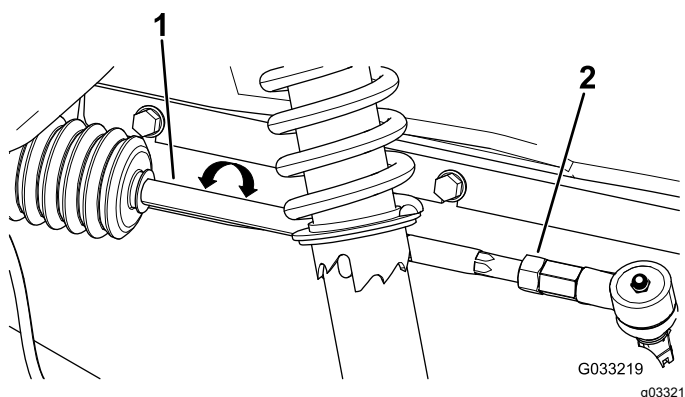

Figure 42
- If the measurement does not fall within 0 to +/- 3 mm (0 to +/- 1/8 inch), loosen the jam nuts at the outer end of the tie rods (Figure 42).